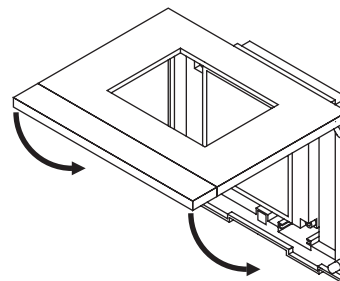

Fig. 65
4. Attach the frame and secure it using the enclosed screw (Fig. 65).